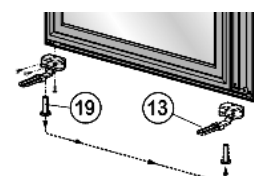

Fig. 12
- ▶ Transfer the stop Fig. 12 (13) to the opposite side and screw it firmly into place (with 2 Nm).
- ▶ Check whether there is a white plastic sleeve in the door bearing on the opposite side. If not\*: Draw the plastic sleeve Fig. 12 (19) out of the door bearing and insert it snugly at the opposite side.